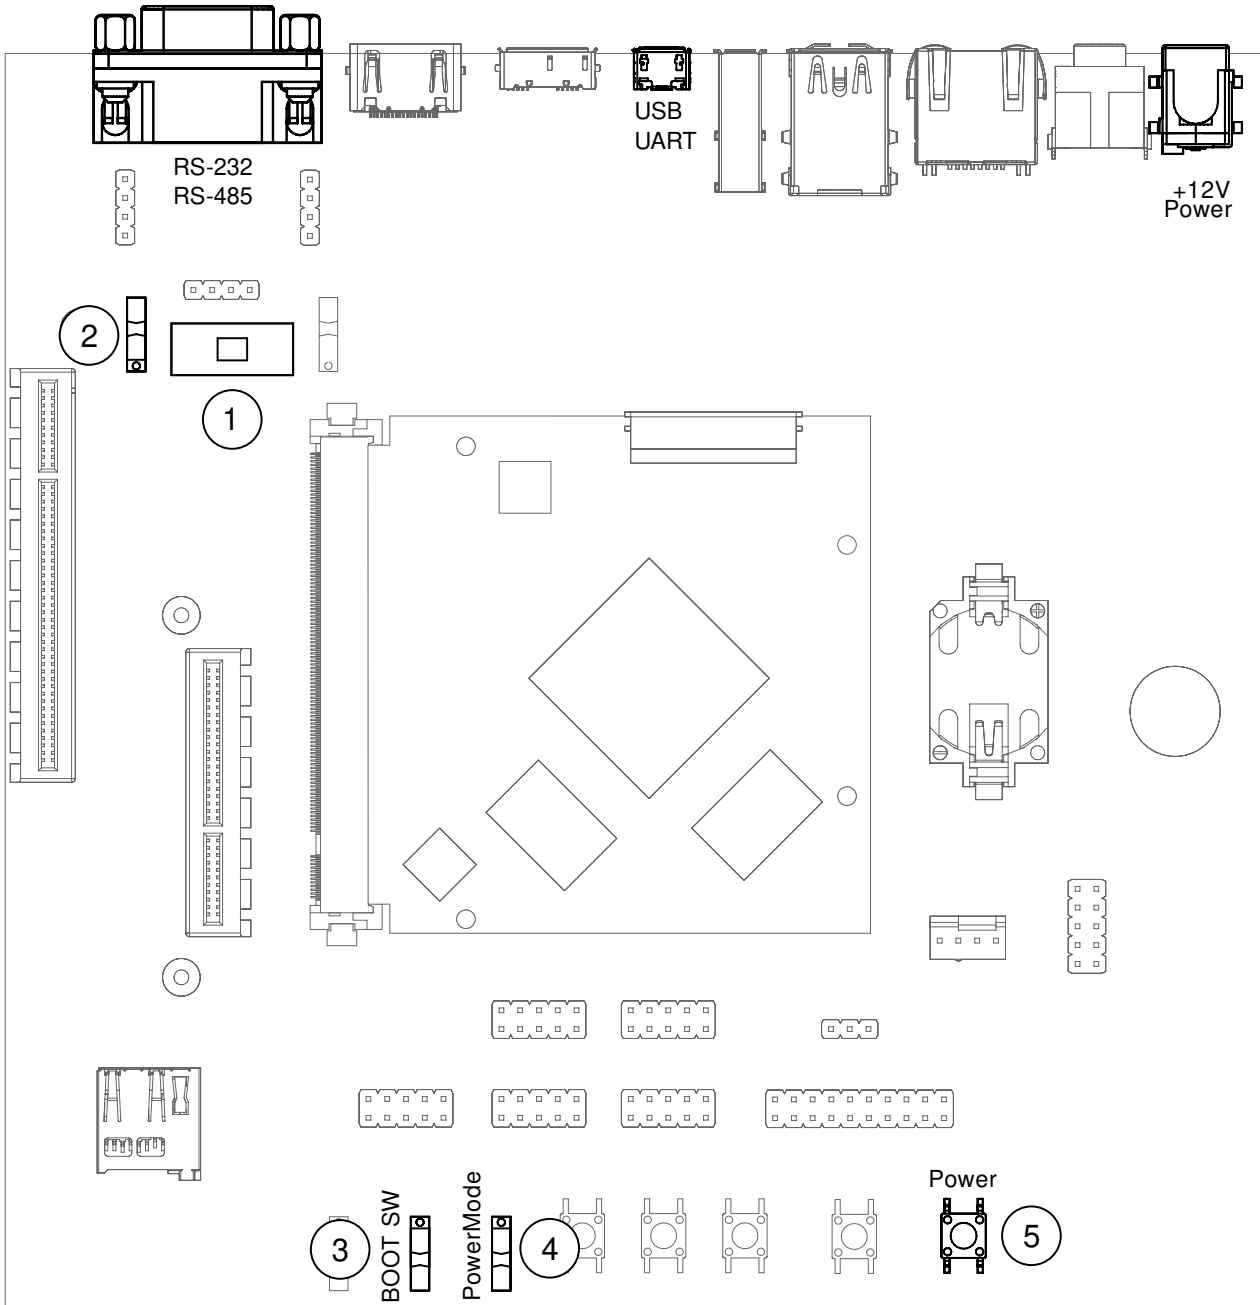

Fig. 2.3: Serial console and boot configuration
For bootloader configuration and Linux console, the serial interface can be used. Connect either a Micro-USB or RS-232 cable to the corresponding port. Select the correct UART with UART selector slider (1). For Micro-USB, the slider has to be in the right position to route the default console (UART0) to the USB-UART bridge. For RS-232, the slider has to be in the left position and the protocol slider (2) has to be in the RS-232 position (see Fig. 2.3 *Serial console and boot configuration*).